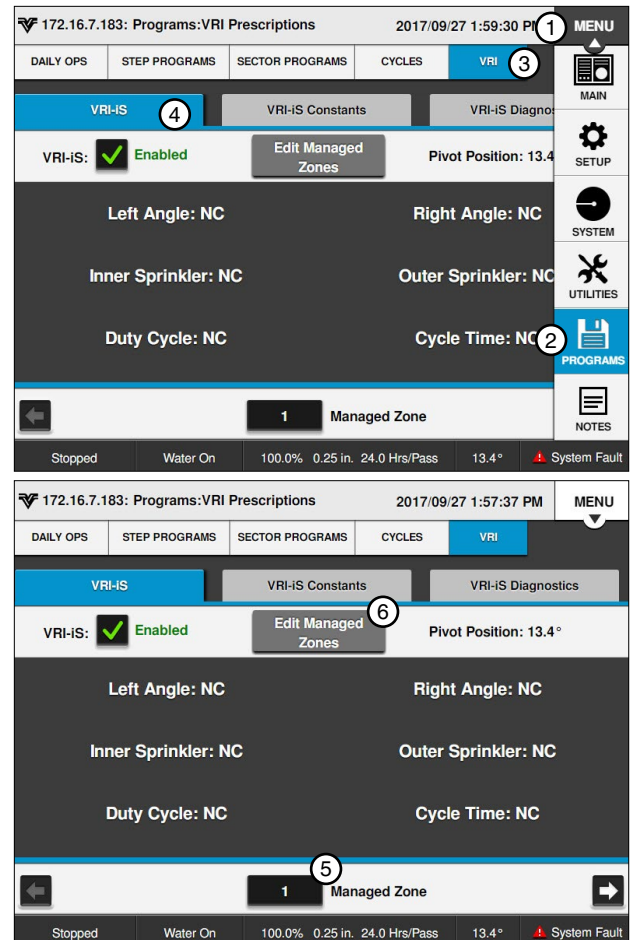

Figure 173-1 1. Menu
1. Push **Menu**, **Programs**, and **VRI** to display the VRI screen. Refer to Figure 173-1.